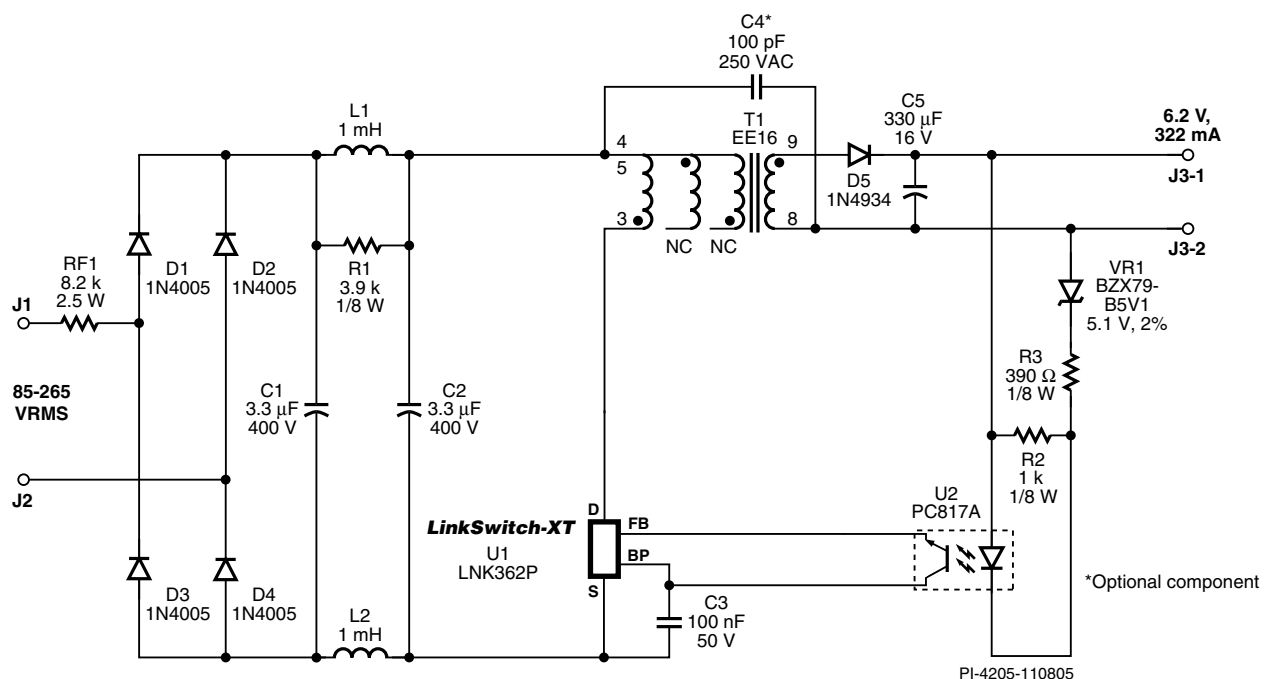
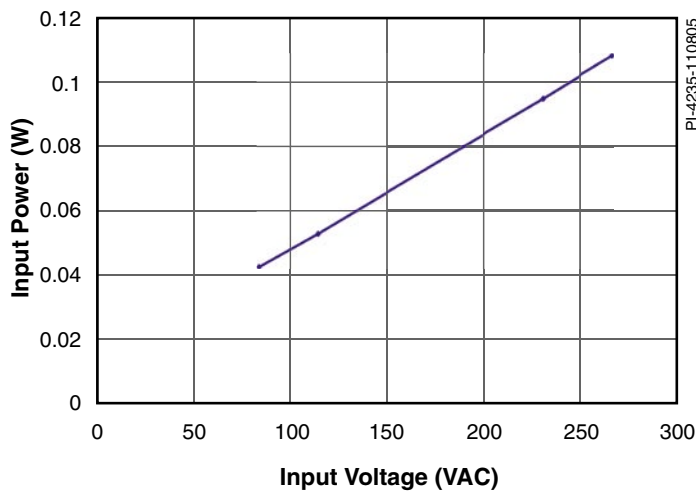
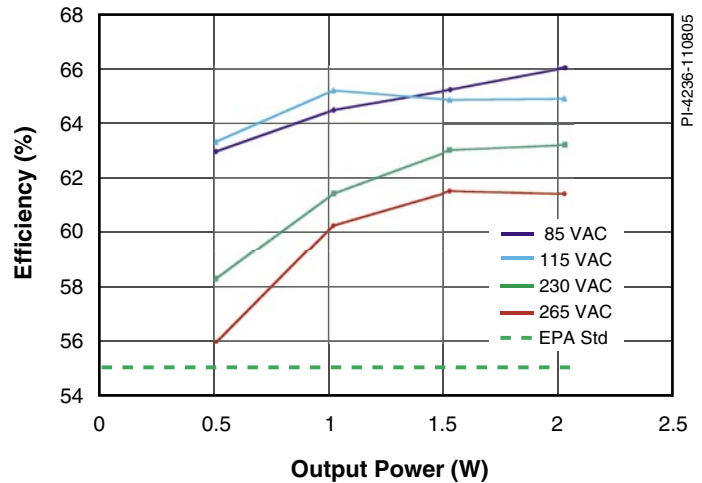

Figure 1. LNK362 Based 6.2 V, 322 mA, 2 W, Low-Cost, Flyback CV Output Power Adapter.
Figure 2. No-Load Input Power Consumption vs. Input Voltage.
Figure 3. Harmonized (EPA, CEC) Active-Mode Efficiency vs. Output Power (25, 50, 75 & 100%).
This *LinkSwitch-XT* based flyback converter (Figure 1) provides 2 W of tightly regulated constant voltage (CV) output power, while meeting the active-mode efficiency and no-load power consumption requirements of all harmonized energy efficiency (EPA, CEC) standards (see Figure 2 and Figure 3).